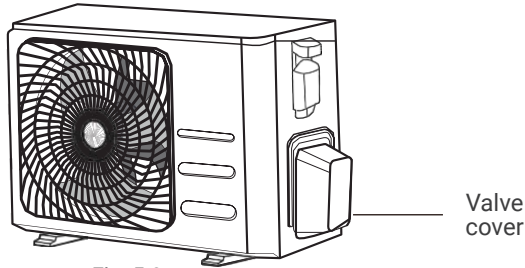

Fig. 5.9
1. Unscrew the cover from the packed valve on the side of the outdoor unit (see Fig. 5.9)